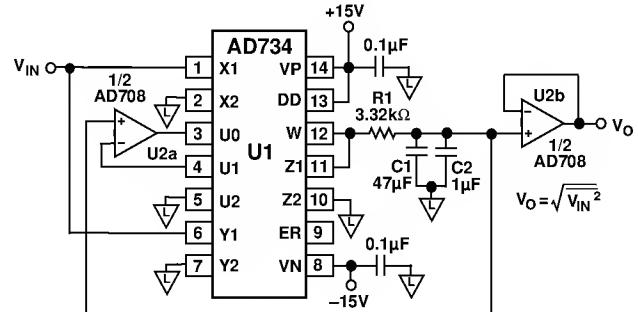

Figure 15. A 2-Chip, Wideband RMS-DC Converter
using its direct divide mode. Figure 15 shows the circuit.
In Figure 15's circuit, the AD 734 squares the input signal, and its output (V_{IN}^2) is averaged by a low-pass filter that consists of R1 and C1 and has a corner frequency of 1 Hz. Because of the implicit feedback loop, this value is both the output value, V_{RMS} , and the denominator in Equation (13). U 2a and U 2b, an AD 708 dual dc precision op amp, serve as unity-gain buffers, supplying both the output voltage and driving the U interface.